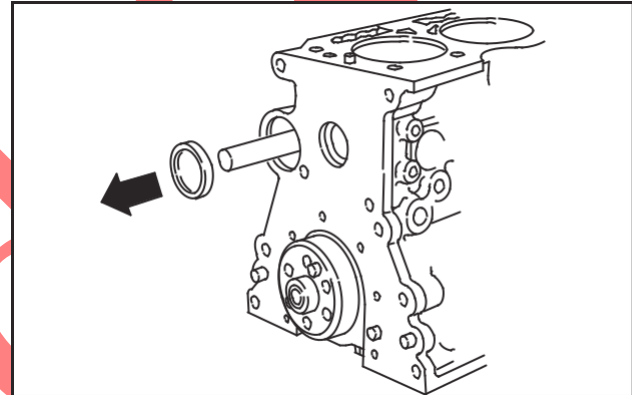

Fig. 8 – Removing Camshaft Plug
1. Remove rear camshaft plug, Fig. 8.